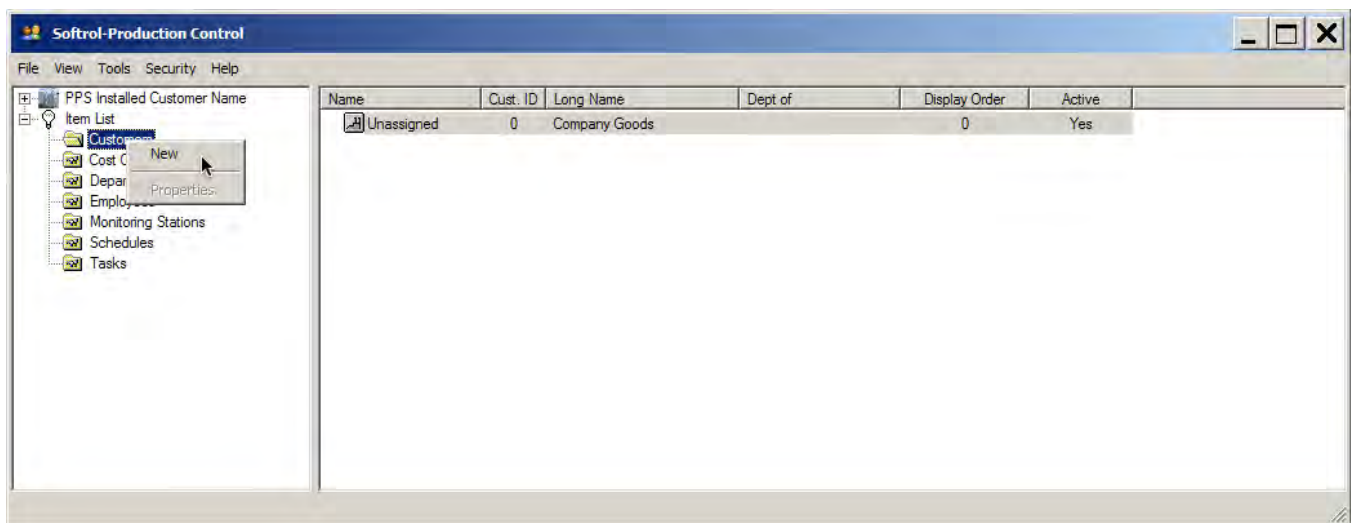

Figure 10. Right-click **Customers**, and select **New**.
3. Right-click the highlighted **Customers** folder, and select **New** to open the *Customer Maintenance* dialog (see Figure 10).